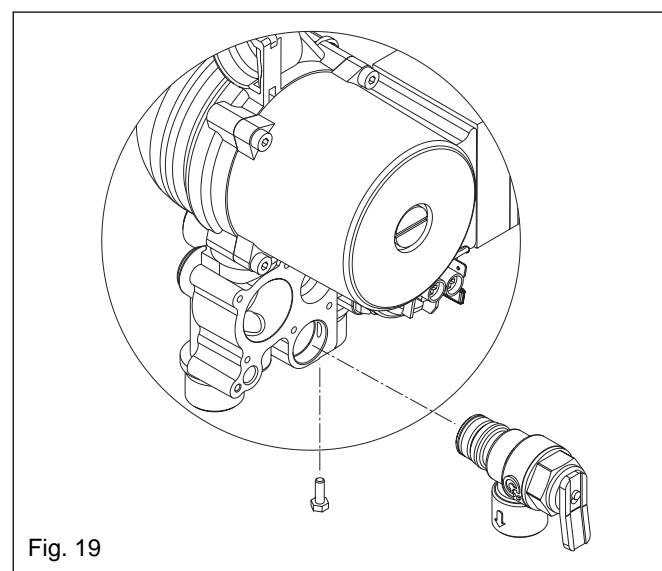

Fig. 19
6.6 SAFETY VALVE (see fig. 19)